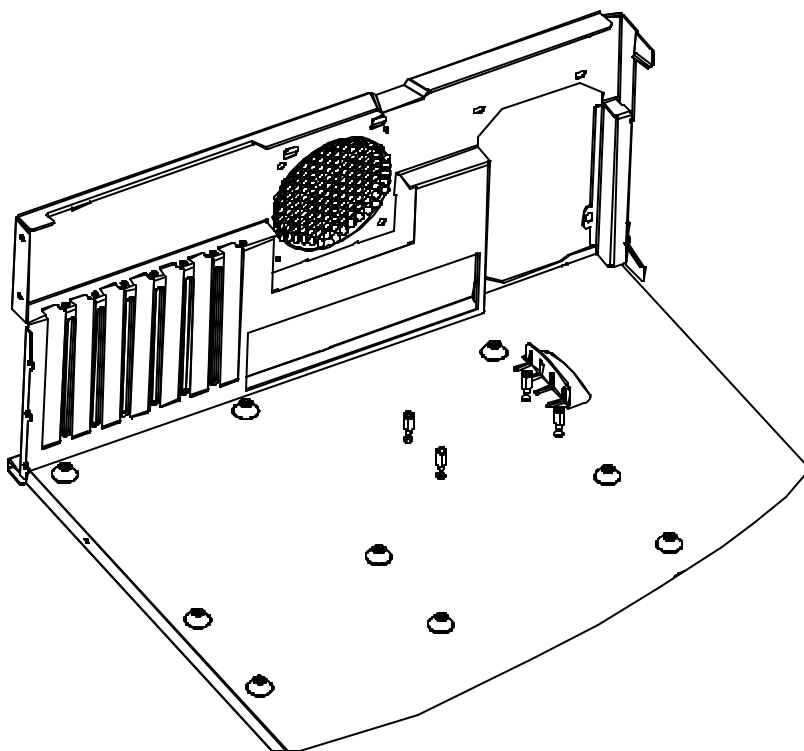

Figure 3. ATX Chassis Mounting Holes for Pentium® 4 Processors
The retention mechanism is attached to the chassis via four (4) standoffs, as shown in Figure 3. These standoffs are in addition to the standard ATX mounting holes defined in the *ATX Specification*, Version 2.03. The standoffs must be removable to maintain backward-compatibility with boards that do not support Pentium® 4 processors. The four (4) standoffs for the retention mechanism must be the same height as the standard ATX board standoffs and compatible with 6-32 (x 1/2 inch-3/8 inch) pan-head or round-head screws. It is the responsibility of the chassis vendor to supply the four (4) 6-32 screws with the chassis.